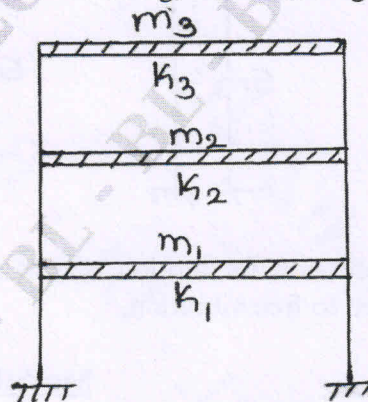

Fig.Q7
- 7 For shear building shown in Fig.Q7. Compute the natural frequencies and mode shapes. Given: Stiffness:  $K_1 = 3 \times 10^6$  N/m,  $K_2 = K_3 = 4 \times 10^6$  N/m